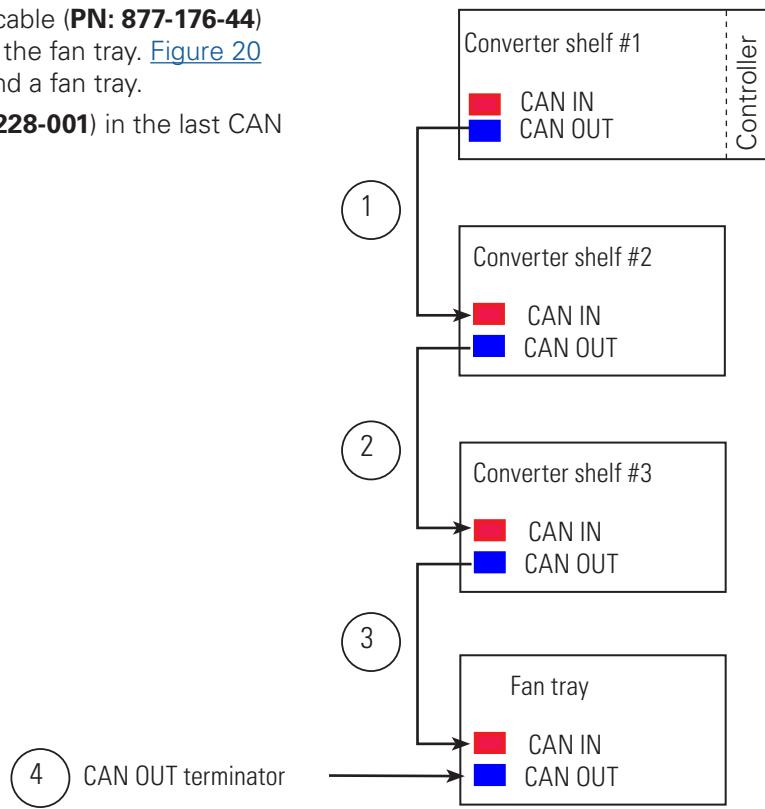

Figure 20: CAN bus cabling
1. Connect the daisy-chained CAN bus cable (**PN: 877-176-44**) from the top shelf to the last shelf or the fan tray. Figure 20 shows the wiring for three shelves and a fan tray.